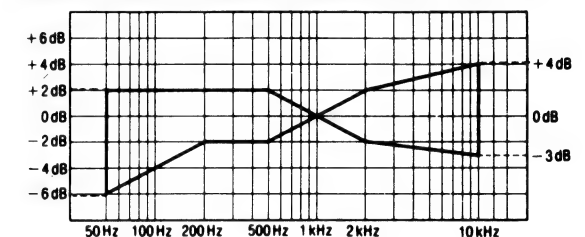

Fig. 13
5. Play back the test signals just recorded and verify that the levels at the test frequencies fall in the ranges specified in Fig. 13 with respect to the reference signal level.